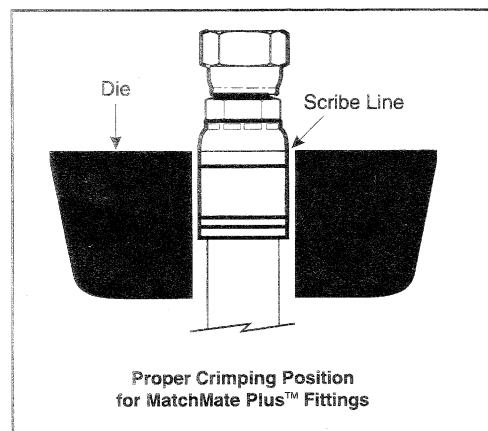

Figure 2
- 3) Position the fitting within the crimp cage according to the corresponding figure in the current Aeroquip Crimp Specifications bulletin (A MatchMate Plus fitting is shown in Figure 2).